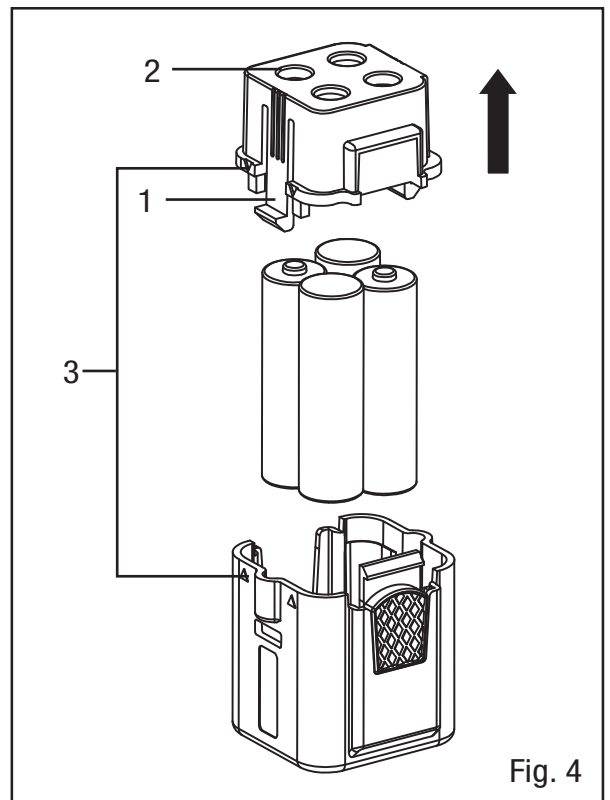

Fig. 4
2. Remove the battery holder from the cover by pressing down the two holder tabs (Fig. 4 - 1) and sliding the battery holder out of the cover.
3. Insert the four AA batteries (not included) into the battery holder, according to the polarity markings indicated on the battery holder surface (Fig. 4 - 2).
4. Align the arrows (Fig. 4 - 3) on the battery holder with the arrows on the battery pack cover. Press down the holder tabs and slide the battery pack into the cover until a click is heard.